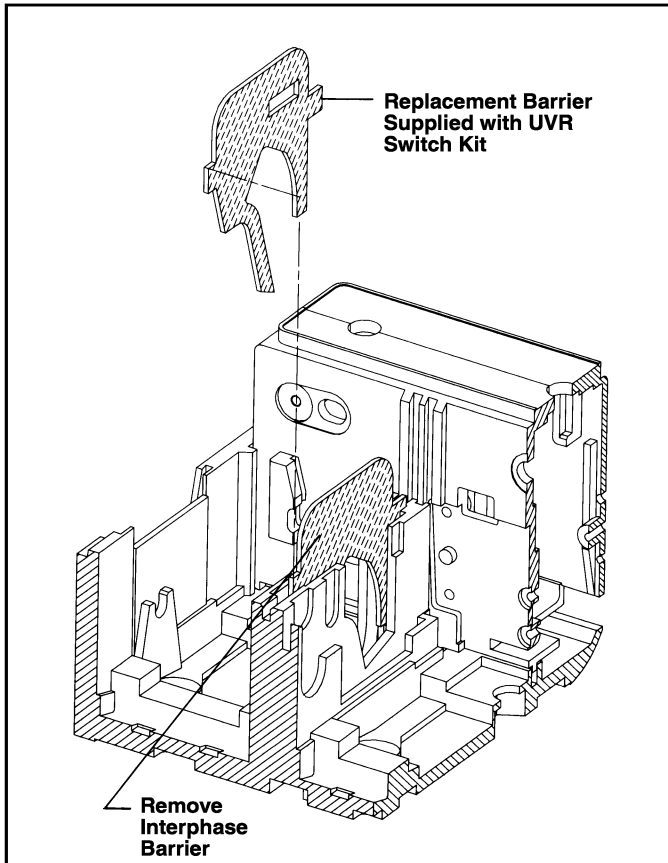

Fig. 2-3 Interphase Barrier Replacement
- 2-6. Remove interphase barrier between accessory mounting cavity and operating mechanism (see Fig. 2-3).
- 2-7. Install replacement interphase barrier (supplied with kit) in base (see Fig. 2-3).